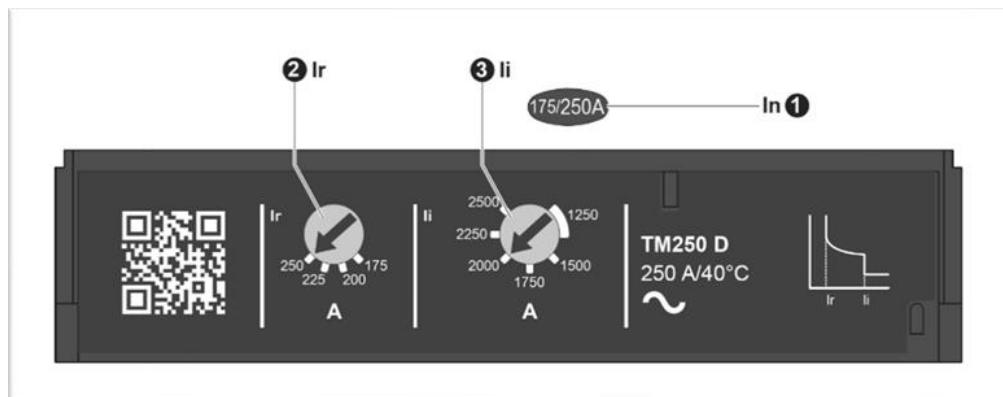

Figure 4. Schneider TM-D Trip Unit – Current Settings
- 6.2 For Thermal-Magnetic Trip Units (model numbers TM-D) the adjustments for current settings are shown in Figure 4